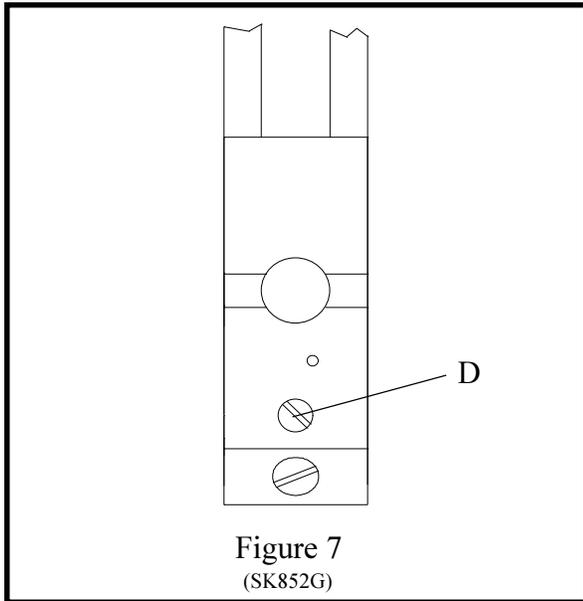

Figure 7
### C. Head/Clincher Alignment (Figure 7)
1. To adjust for front-to-rear alignment: (Fig. 7)